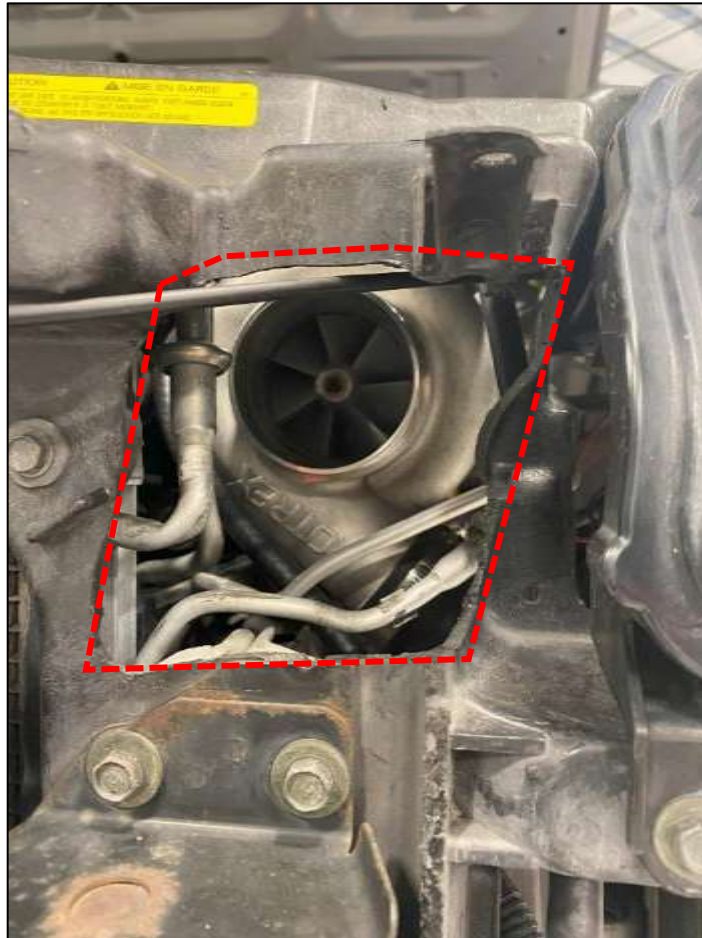

Figure 14
2. **G35 Owners:** The Driver Side Core Support will need to be opened up and enlarged to allow the Intake piping to fit. We recommend using a body saw to cut the Core Support. If you want a very clean installation, it may require multiple trimming sessions after you test fit the blower. However, if you just want to cut it once and be done, you should cut out as much of the Core Support as possible. Refer to *Figure 14* as a reference.